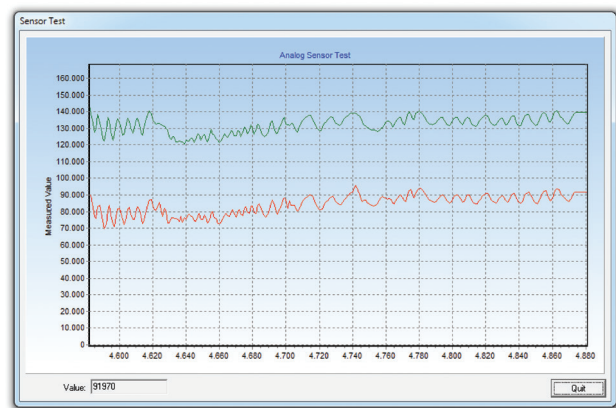

Fig. 34: Sensor Test diagram of analog sensor with 2 position magnets
- 9 Menu **Test Sensor** provides a data display (fig. 34), which shows the absolute positions of the position magnets. Compared with the sensor measuring rate, serial data transmission between sensor and PC is relatively slow, i.e. not every actually measured value can be displayed. For this reason, only every 50th measurement value appears in the diagram.